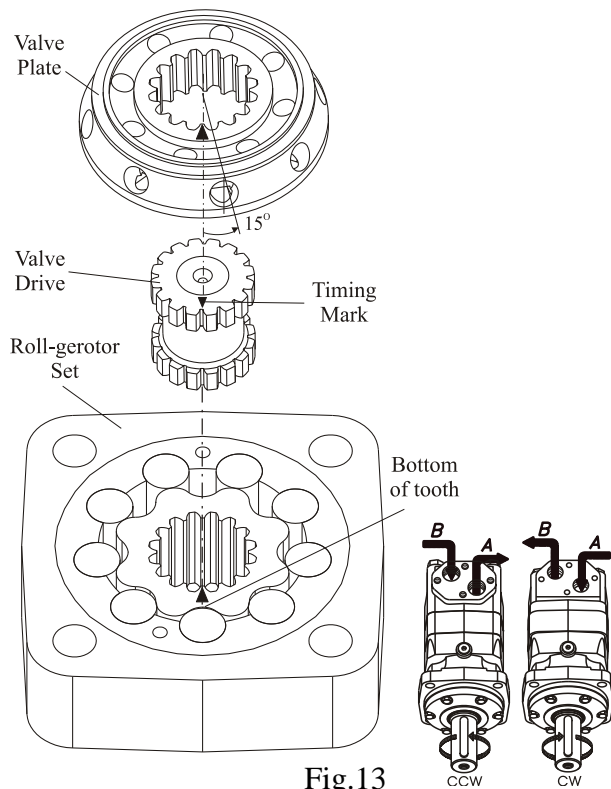

Fig.13
13. Mark the rotor at the point where the tip of a spline tooth is opposite to the bottom of a tooth in the external rotor teeth as shown on Fig.13.